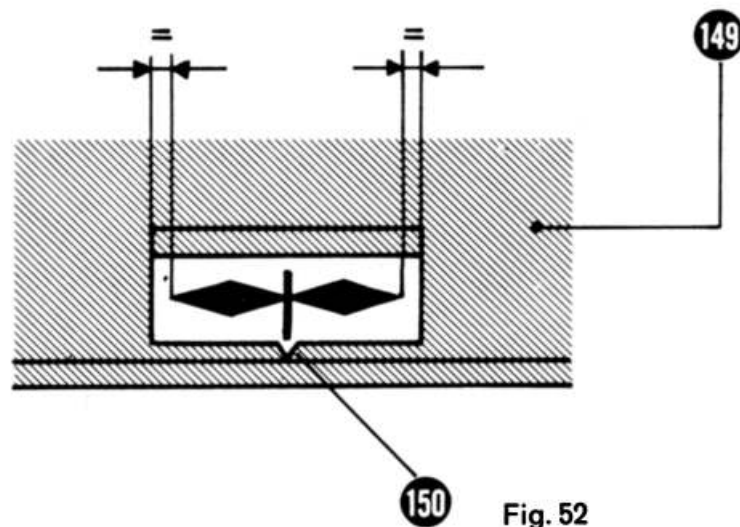

Fig. 52
First set indicator scale (151). Run the machine and check whether scale symbol has same distance from both sight hole edges. (See Fig. 52). Is this not the case, loosen screw (152) and shift scale to and fro until you can set it to the position required. Scale should be pressed slightly into the direction of the cams in order to avoid touching the arm cover. Retighten screw (152). Now switch-on the ornamental stitch device - switch lever (13) to the rear - place